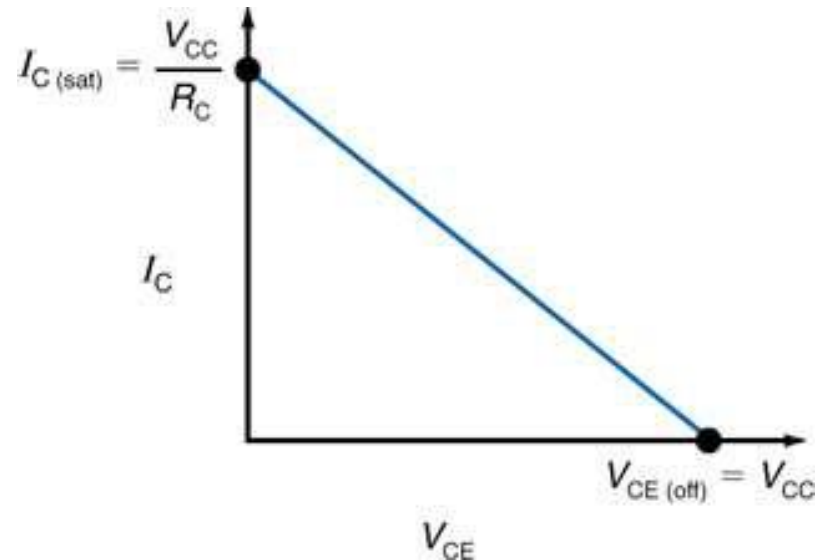

Fig. 1
- A sample dc load line is shown in Fig. 1.